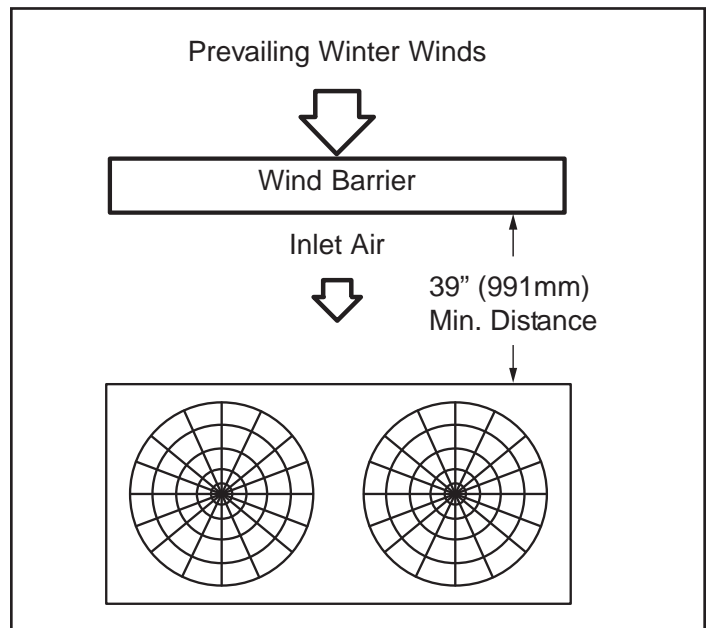

Figure 7. Wind Barrier
- Construct a wind barrier. Size barrier at least the same height and width as outdoor unit. Install a barrier 39 inches (991 mm) minimum from the sides of the unit in the direction of prevailing winds as illustrated in figure 7.